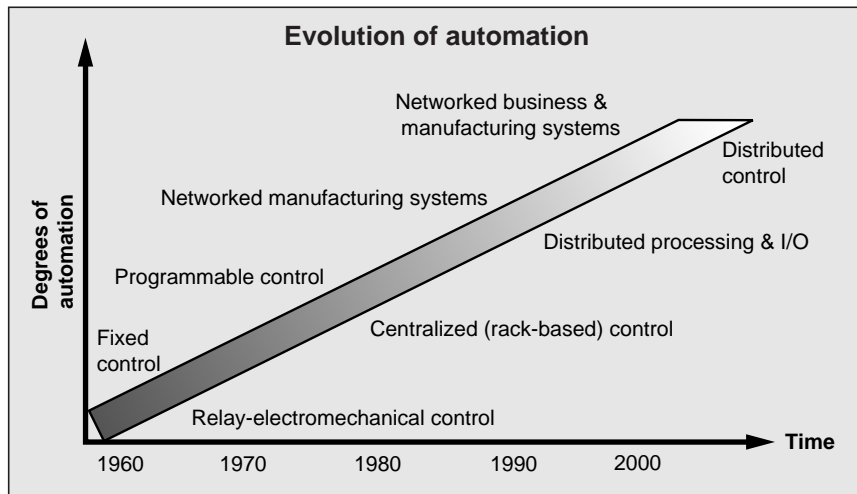

Figure 5 — Several manufacturers are moving from a present control strategy of distributed processing to a new strategy of distributed control.
- Seeking to leverage the technology shifts found in electronic component, software, and network technologies, Figure 5.